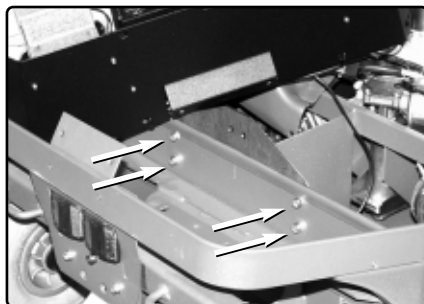

Fig. 4. The plate is held in place with four screws
4. Fit the fixing plate on the rear end of the battery drawer, see Fig. 4.